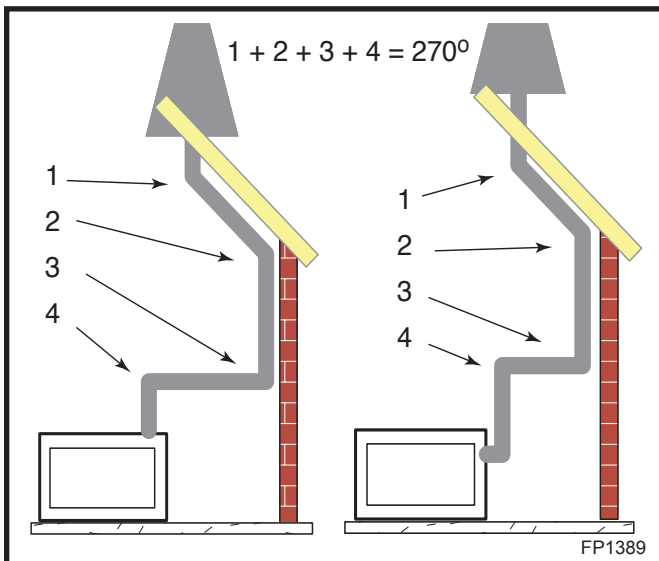

Fig. 30 Maximum elbow usage.
- A maximum of two (2) sets of 45° elbow offsets can be used within these vertical installation. From 0 to a maximum of 8' of vent pipe can be used between elbows. (Fig. 30)
- The maximum angular variation allowed in the system is 270°. (Fig. 30)
Refer to Figures 30 & 40 for log location and alignment.